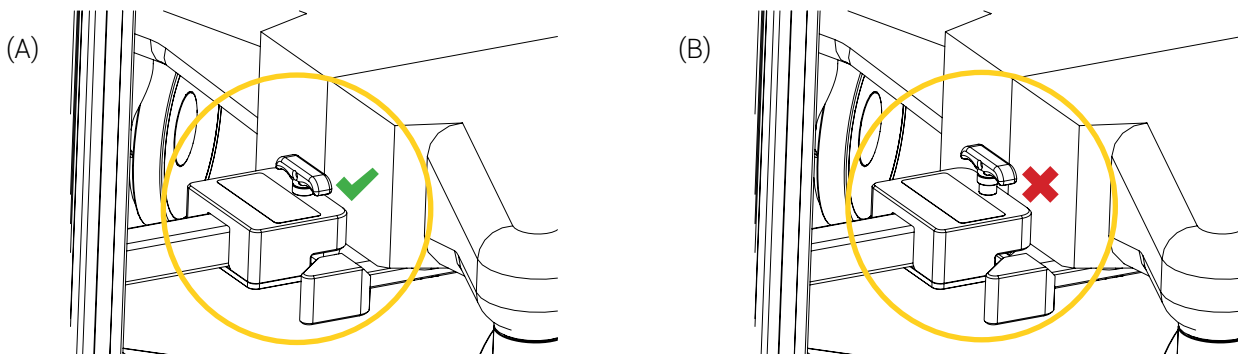

Figure 8 : THS Neonatal Cart attached on the Babyleo TN500 incubator
- Ensure that coupling between the fold-up hitch of the transport cart and the THS coupling device under the Babyleo TN500 incubator is properly secured (Figure 8).